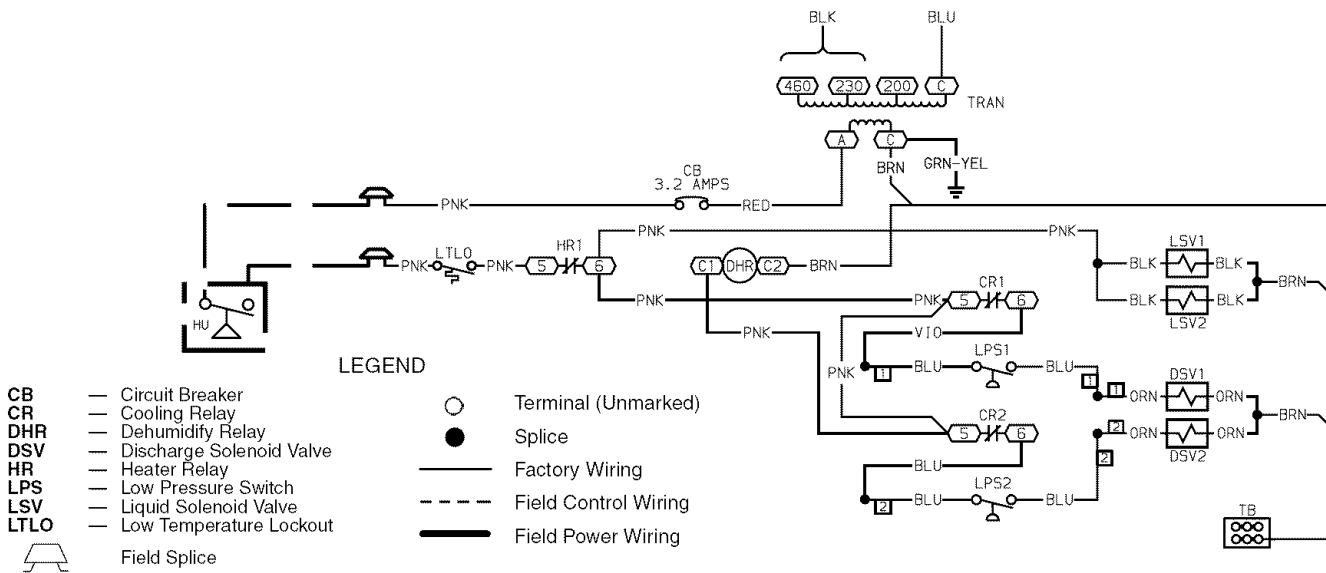

Fig. 15 — Typical Humidi-MiZer™ Adaptive Dehumidification System Humidistat Wiring (208/230-V Unit Shown)
3. Use a wire nut to connect humidistat cable into low-voltage wiring as shown in Fig. 15.